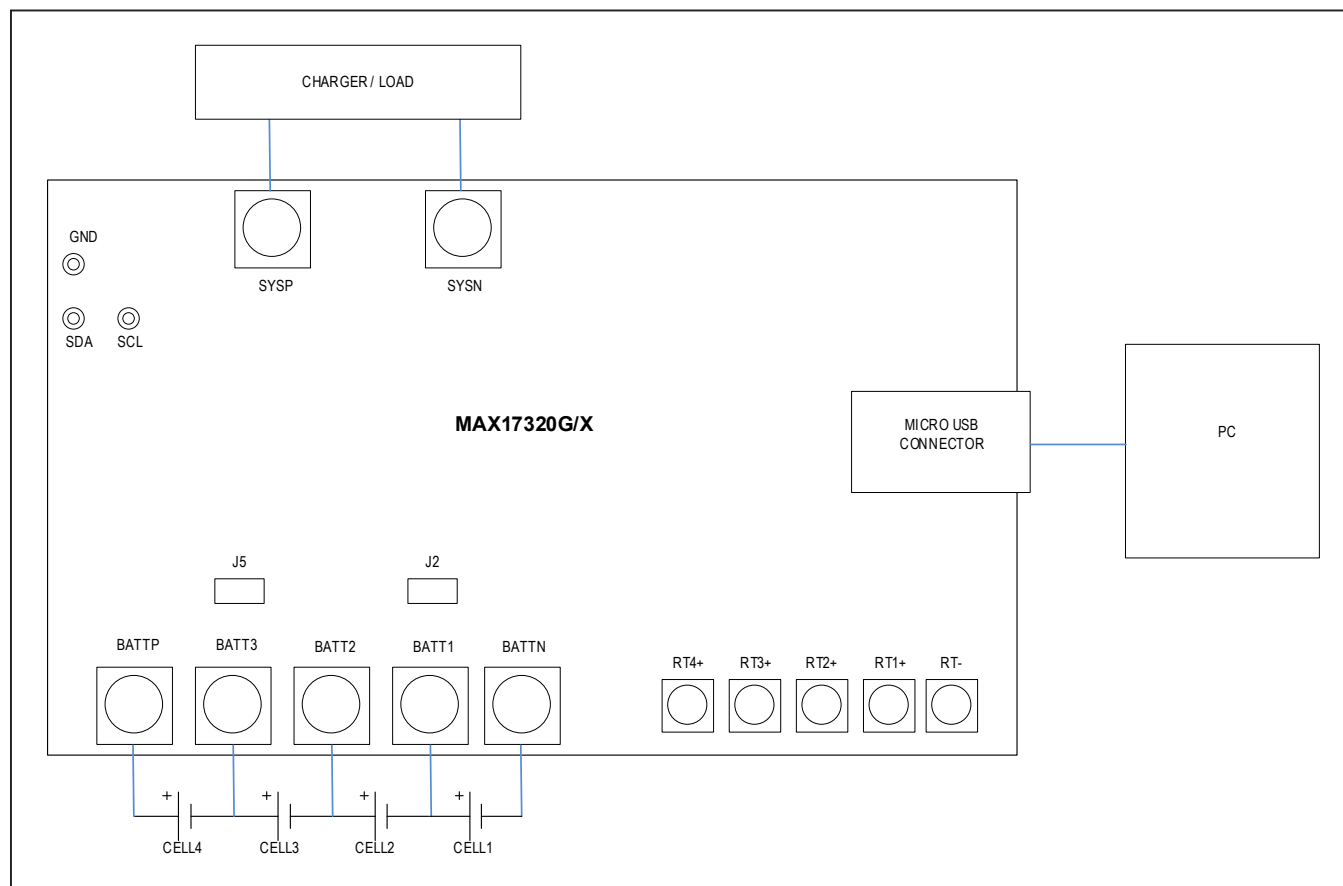

Figure 1. MAX17320 Board Connections
- 5) Make connections to the EV kit board based on pack configuration. Figure 1 shows the connections for a 4S configuration. The cells connect between the BATTN/BATT1/BATT2/BATT3/BATTP pads. Table 1 describes the connections for 2S, 3S, and 4S configurations. The load or charger circuit can be connected between the SYSGND and SYSPWR pads at this time as well.